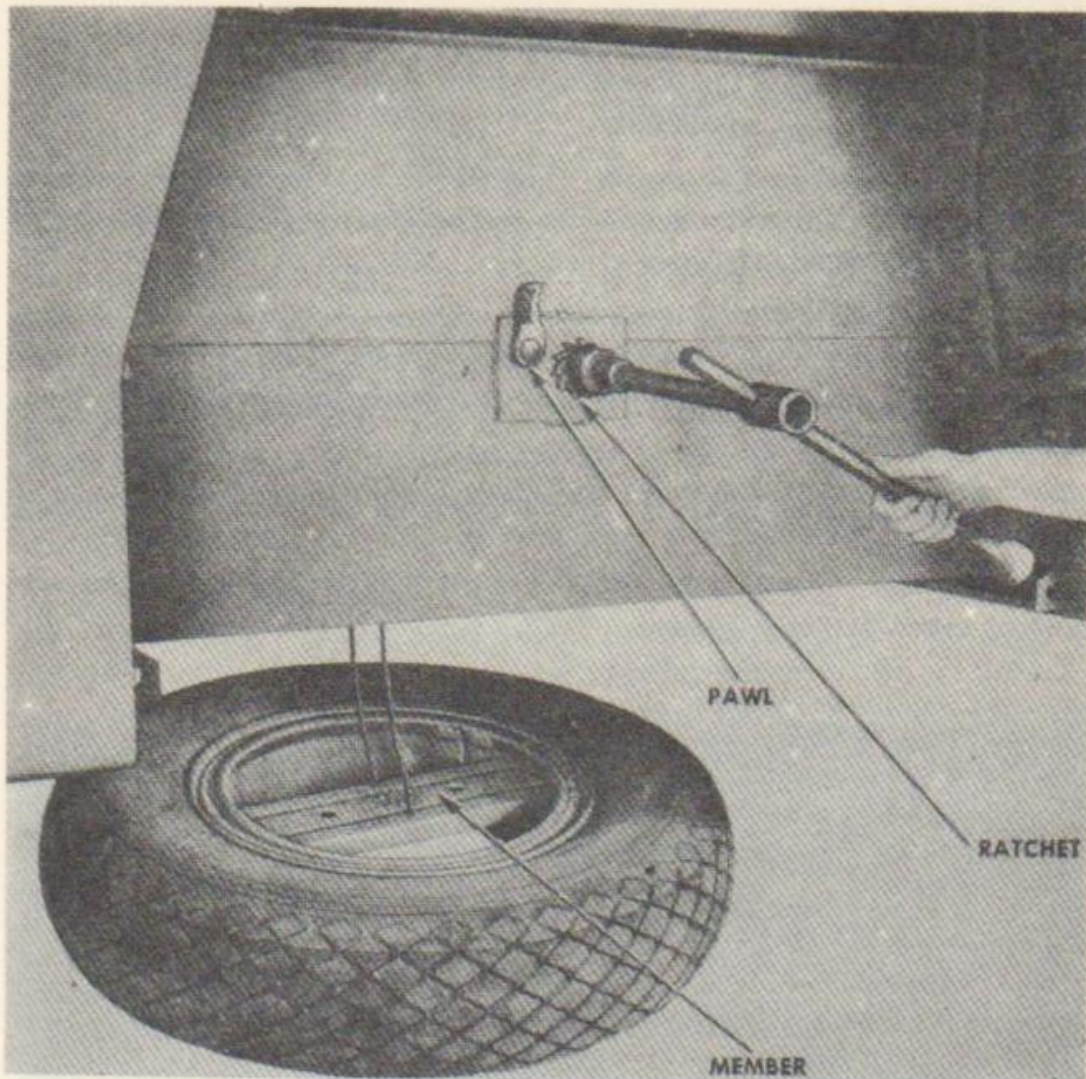

FIGURE 14. REMOVING SPARE TIRE
(1) **SPARE TIRE REMOVAL** (fig. 14) — With rim wrench 16T-2407, remove the two lug nuts which hold member to tire carrier.
(2) **INSTALLATION**—Place tire under center of trailer near gooseneck, with the lock ring up. Set member into rim (fig. 14). Place pawl in ratchet and turn operating shaft until tire is raised to studs on tire carrier. Guide tire over studs and continue raising the tire, making certain the pawl contacts the ratchet to prevent tire from falling to the ground. Install the two lug nuts.